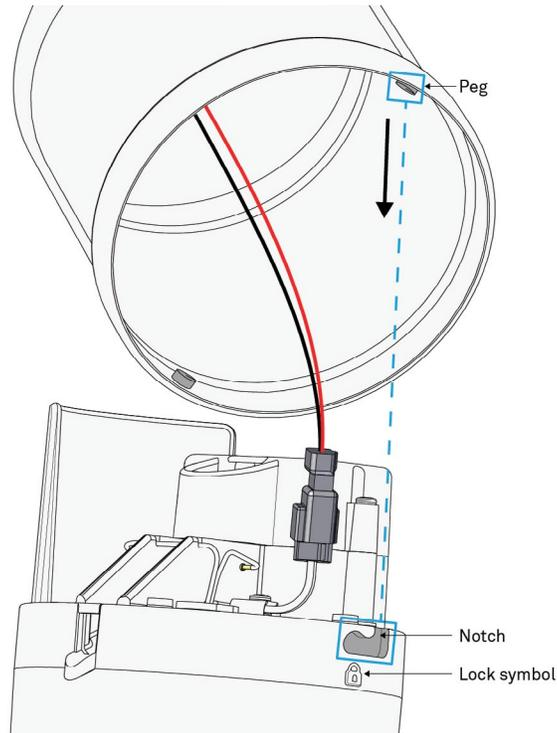
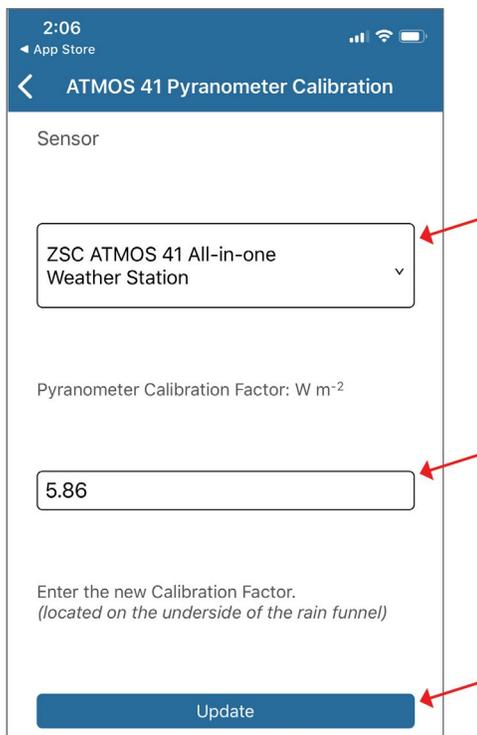

Figure 6. Align new funnel
Figure 17. Enter CAL Factor value
10. Line up the pegs on the inside of the funnel with the notches on the ATMOS 41 (Figure 6).
12. Confirm that the ZSC ATMOS 41 All-in-one Weather Station is the sensor listed (Figure 17).
13. In the text box below the label Pyranometer Calibration Factor : $W \cdot m^{-2}$ (Figure 17), enter the new pyranometer CAL Factor printed on a label inside the ATMOS 41 replacement funnel (Figure 6).
The new pyronometer CAL Factor is printed on a label inside the ATMOS 41 replacement funnel (Figure 6).